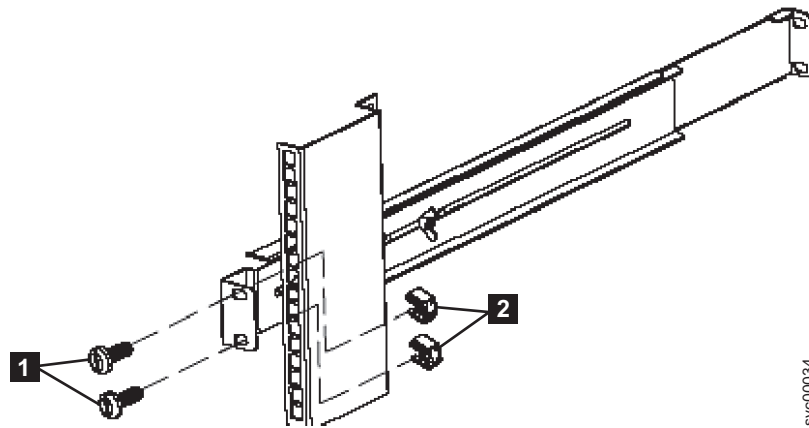

Figure 314. Removing the rear rail on the 2145 UPS-1U
5. Remove the two M6 × 10 screws from the rear side of the rail (**1** in Figure 314) and the two clip nuts (**2**).